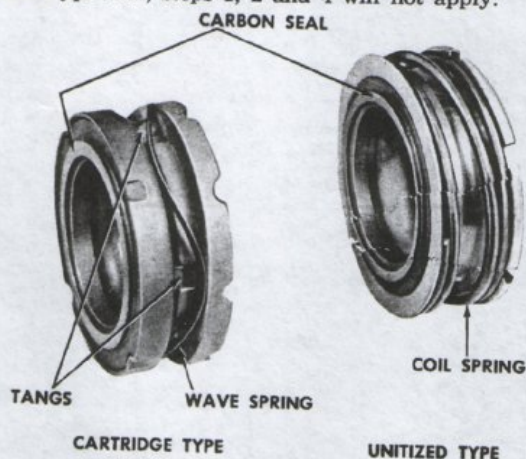

Fig. 43. Compressor Seal Identification
The crankshaft seal replacement package consists of the crankshaft seal assembly and the crankshaft bearing housing seal face plate. Two types of crankshaft seals are supplied for service, as shown in Fig. 43. If the replacement package contains the cartridge-type seal, follow the entire installation procedure given below. If the replacement package contains the unitized-type seal, steps 1, 2 and 4 will not apply.
1. Before installing cartridge-type seal assembly, check assembly to make sure that tangs index in slots of mating part. This will insure proper spring action. The carbon seal must be assembled, as shown in Fig. 43.